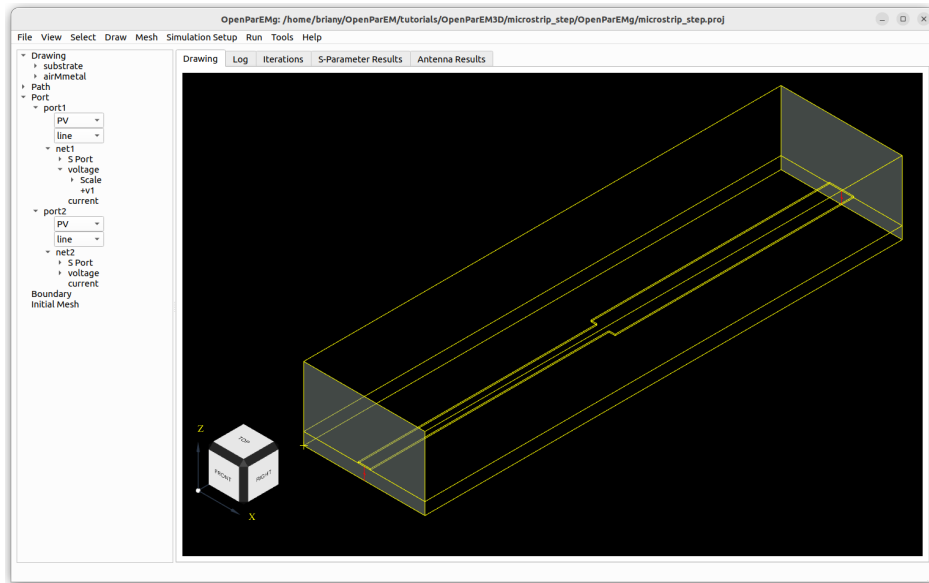

Figure 11: Completed port setup for the microstrip step.
- Repeat the process on the other end for port 2, starting with setting the drawing plane to a face on port 2. The completed port setup should look like that in Fig. 11.